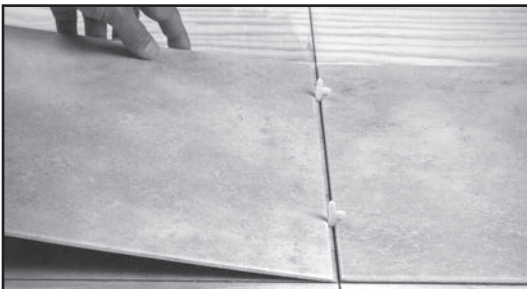
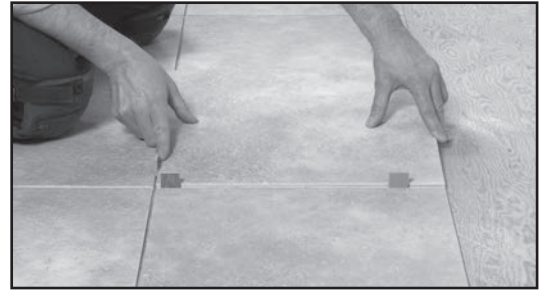

Fig. 12 - Position spacers before setting the tile.
Fig. 13 - Set tile in straight rows.
- Position two spacers along the edge of adjacent tiles, then lay the next tile gently against the spacers without forcing it into place (Fig. 12). Continue to set the tiles in straight rows to complete each section (Fig. 13). Follow the chalk lines to keep the joints straight and make minor adjustments if necessary. Remove the spacers immediately after setting each tile.